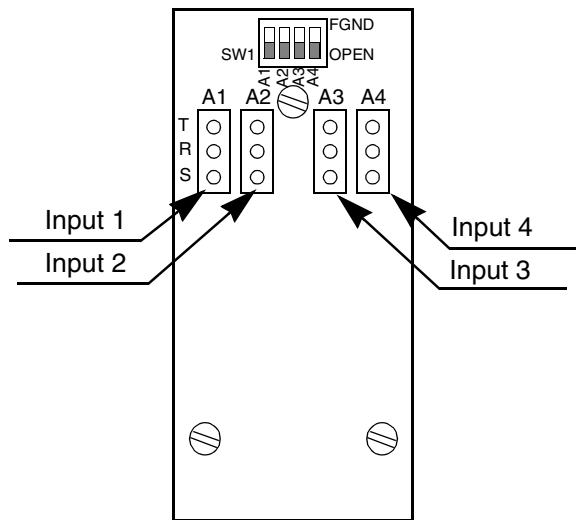
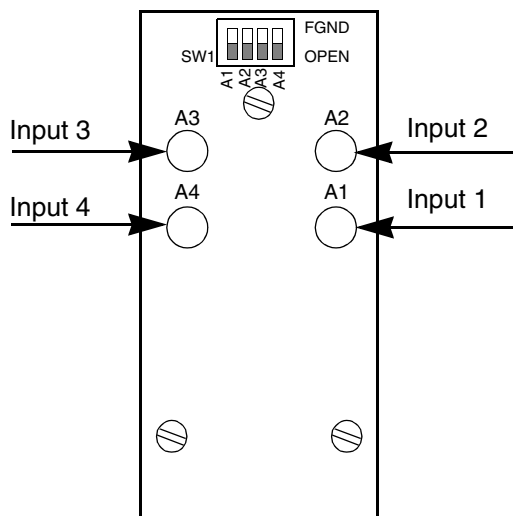

Figure 39. 990-45106-11 PSM Input Module
Figure 40. Coaxial PSM Input Module
5.22 Refer to Figure 39 or Figure 40 and the following to connect to a PSM module.